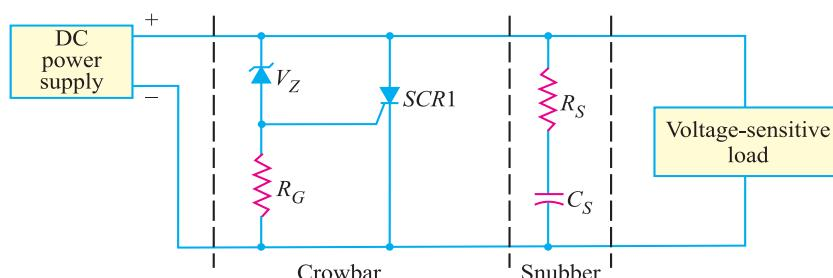

Fig. 20.23
**(v) SCR Crowbar.** A crowbar is a circuit that is used to protect a voltage-sensitive load from excessive d.c. power supply output voltages. Fig. 20.23 shows the  $SCR$  crowbar circuit. It consists of a zener diode, a gate resistor  $R_G$  and an  $SCR$ . It also contains a \*snubber to prevent false triggering.